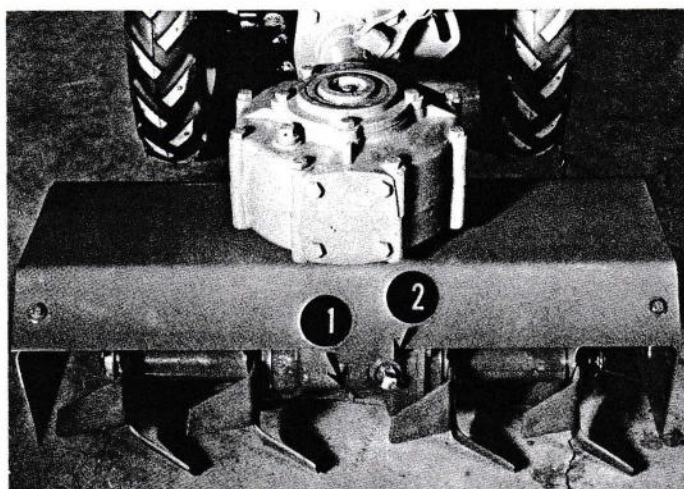

FIGURE 24
6. Rotate the Cultivator to the position shown in Figure 24. In this position the Tines will cut in the same direction (clockwise) as the forward movement of the Tractor.
Check the Cultivator Drive Assembly oil level every eight hours of operation by removing the Oil Level Plug, (1 in Figure 24). If oil runs out of the Oil Level Hole, the oil level is all right; if not, oil must be added.
To add oil, remove the Oil Filler Plug, (2 in Figure 24), and pour through the Oil Filler Hole until oil be-